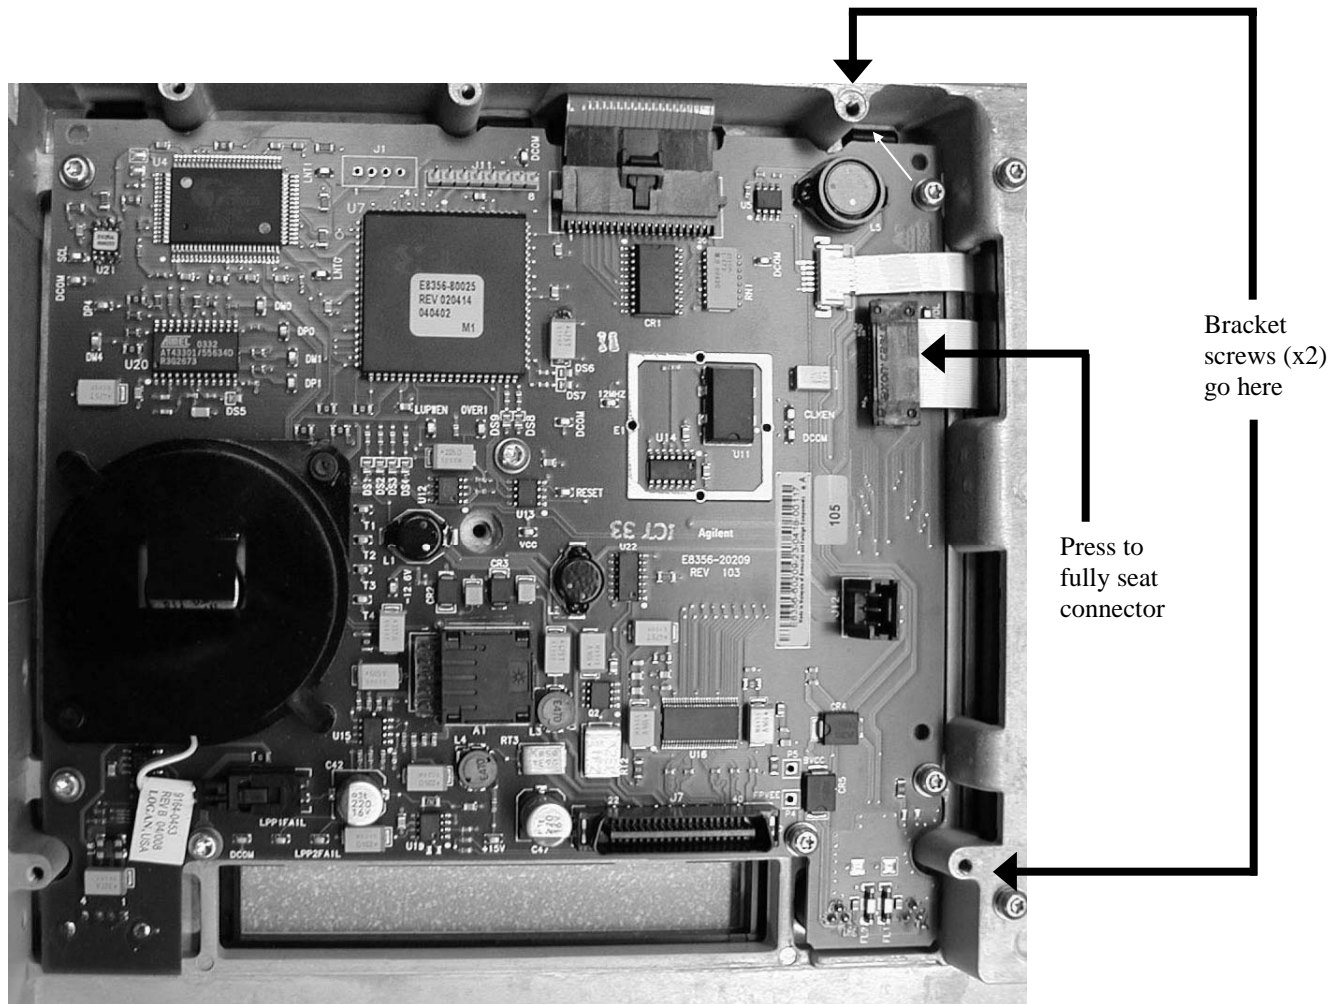

Figure 1: A3 Front Panel Interface Board Assy without the Bracket
1. Refer to Figure 1 in this document: